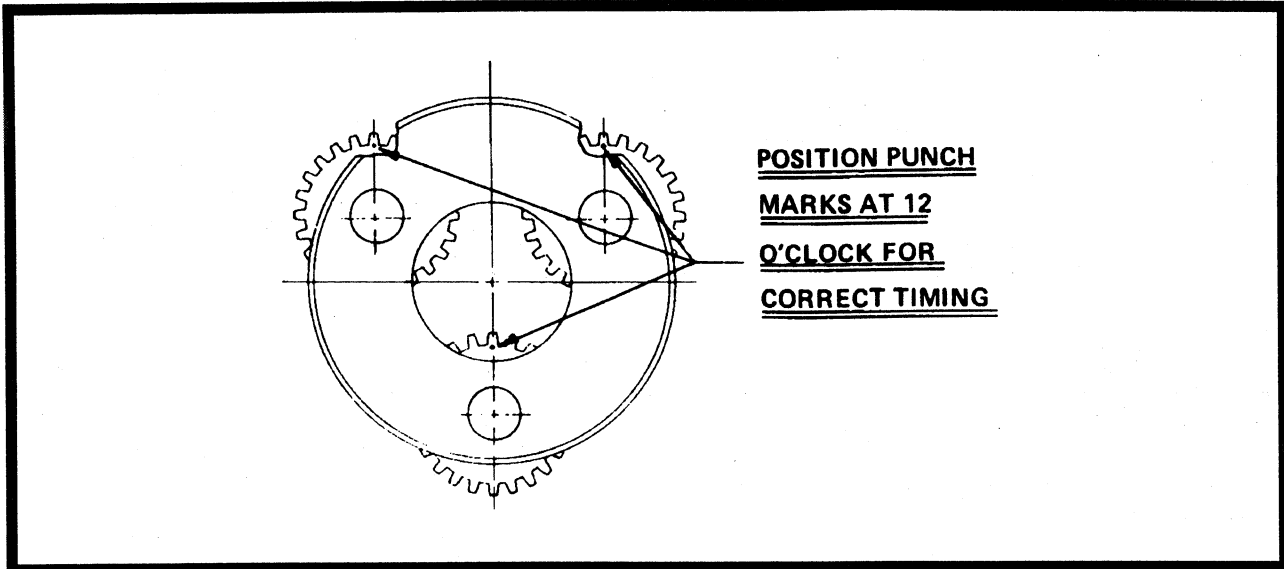

Figure 2-24. Torque Hub Carrier Timing.
- (7). Install new retaining ring (9) completely into spindle groove and against bearing shim. Ensure retaining ring is entirely in groove.
- (8). Place internal gear (12) onto end of spindle.
- (9). Place input shaft assembly into spindle bore with unsplined end facing out.
- (10). Place narrow thrust washer (36) over input shaft (35) with counterbore side facing spindle.
- (11). Place o-ring (22) into hub counterbore. Use petroleum or grease to hold o-ring in place. Slight stretching of o-ring may be necessary to insure proper seating.
- (12). Place carrier assembly on a flat surface with large gears up and positioned as shown in Figure 2-24. Find punch marked tooth on each large gear and locate at 12 o'clock (straight up) from each planet pin. Marked tooth will be located just under carrier on upper two gears.
- (13). With shoulder side of ring gear (21) facing down, place ring gear over (into mesh with) large gears. Ensure punch marks remain in correct location during ring gear installation.
- (14). Install input gear (37) into carrier, meshing with small diameter cluster gears (18). Counterbore in bore of input gear must be to outside of carrier assembly.
- (15). Turn over carrier assembly and ring gear while keeping gears in mesh. Place thrust washer (39) into carrier counterbore. Use petroleum jelly or grease to hold washer in place.
- (16). While holding ring gear, input gear, and cluster gears in mesh, place small side of cluster gears into mesh with internal gear. On ring gear, locate hole marked 'X' over one of counterbored holes in hub. Mark counterbored holes on outside diameter for later use.
- (10). Place narrow thrust washer (38) over input shaft (35) with counterbore side facing spindle.
- (14). While holding ring gear, input gear, and cluster gears in mesh, place small side of cluster gears into mesh with internal gear. On ring gear, locate hole marked 'X' over one of counterbored holes in hub. Mark counterbored holes on outside diameter for later use.
- (15). Install input gear (37) into carrier, meshing with small diameter cluster gears (18). Counterbore in bore of input gear must be to outside of carrier assembly.
- (16). Turn over carrier assembly and ring gear while keeping gears in mesh. Place thrust washer (39) into carrier counterbore. Use petroleum jelly or grease to hold washer in place.
- (17). Place thrust washer (39) into carrier counterbore.
- (18). Place o-ring (22) into cover assembly counterbore. Use petroleum jelly or grease to hold o-ring in place.
- (19). Place cover assembly over ring gear with oil level check plug in cover located approximately 90 degrees from oil fill plug in hub.
- (20). Locate four shoulder bolts (42) 90 degrees apart into counterbored holes in hub marked in step (16). Torque shoulder bolts to 23-27 ft. lbs. (31-36 NM).
- (21). Install bolts (41) in remaining holes. Torque bolts to 23-27 ft. lbs. (31-36 NM).
- (22). Place coupling (43) into spindle and onto input shaft.